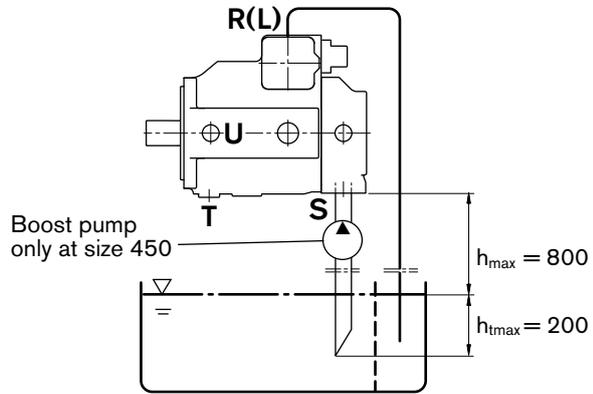

Fig. 4
b) When the minimum fluid level lies below the upper edge of the pump: case drain port and possibly port »S« must be piped, see fig. 4. Observe conditions as shown in point 1.2.
a) Mounting above the reservoir see fig. 4. Observe conditions as shown in point 1.2.